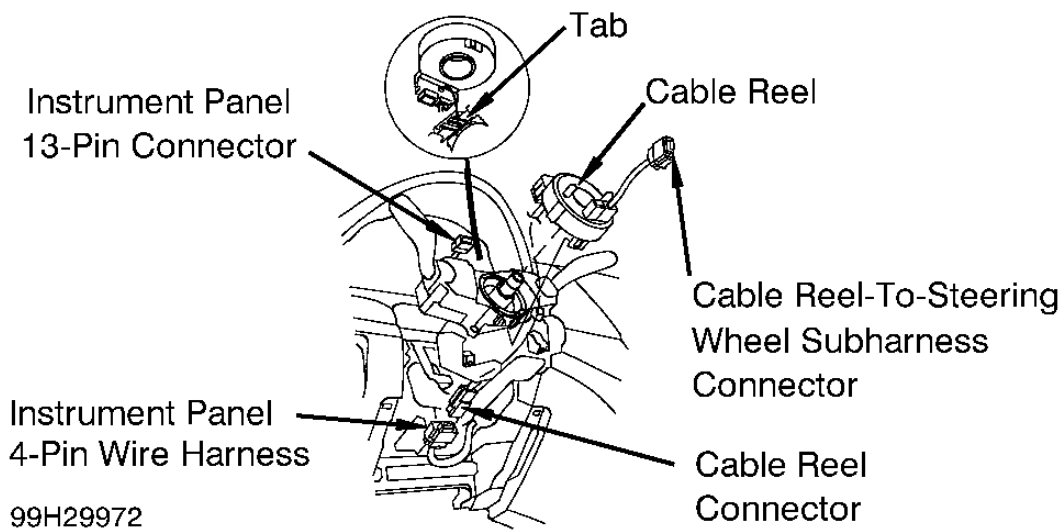

Fig. 10: Identifying Cable Reel
2. Remove steering wheel. Remove left instrument panel side and lower covers. Remove upper and lower steering column covers. Disconnect 4- and 13-pin connectors. See **Fig. 10** . Release tabs and remove cable reel from column.